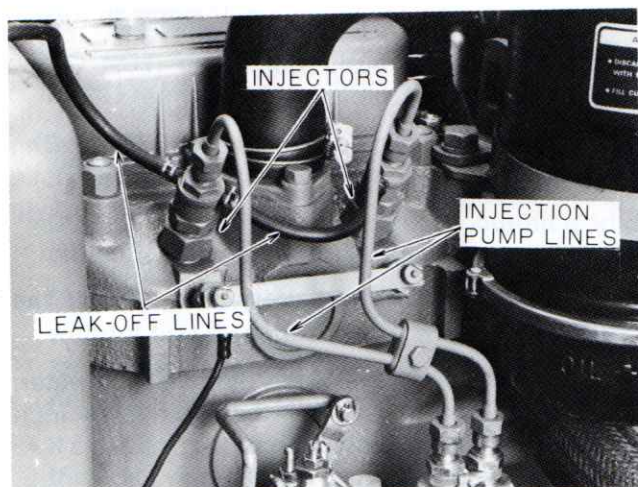

Figure 46 — Fuel Injector Leak-Off Lines
1. Clean all loose dirt from around the injectors and lines. Disconnect the leak-off lines from the injectors, Figure 46.